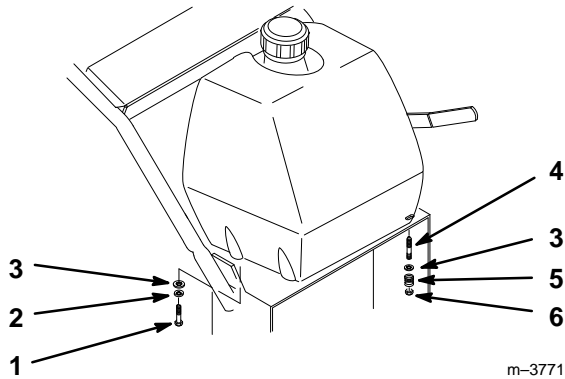

Figure 10
1. Align fuel tank to top of rear frame and secure fuel tank right side with (2) 5/16–18 x 7/8 in. (22.5 mm) bolts, (2) 5/16 lock washers and (2) 5/16 washers (Fig. 10).
3. Secure fuel tank left side to frame with (2) 5/16–18 x 7/8 in. (22.5 mm) studs, (2) 5/16 washers and (2) 5/16 locknuts (Fig. 10).